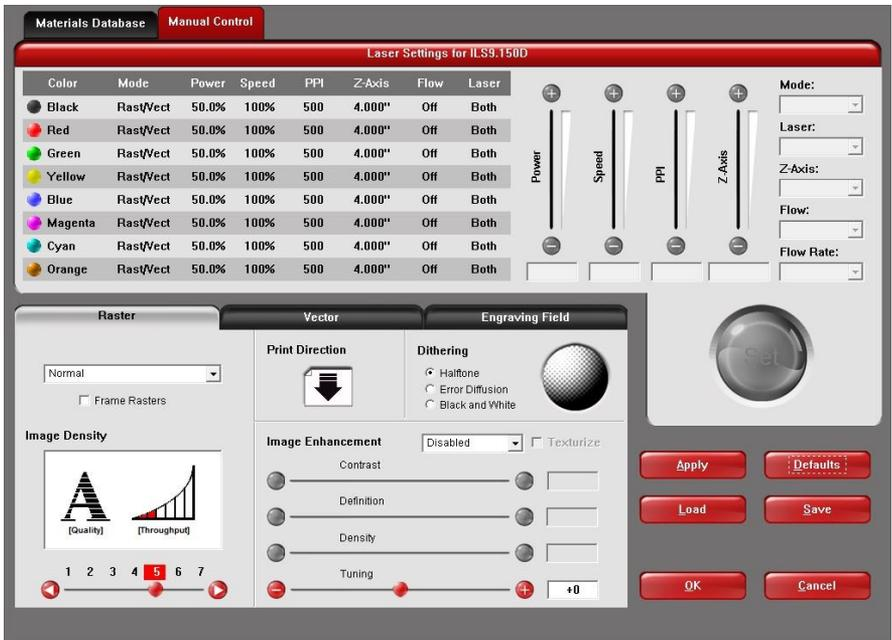

Figure 17: Manual Control Tab
- **NOTE:** The file in Figure 17 features a combination of vectors for the words, and a raster image of the NASA logo.
28. **CLICK** on the **MANUAL CONTROL** tab (Figure 17).